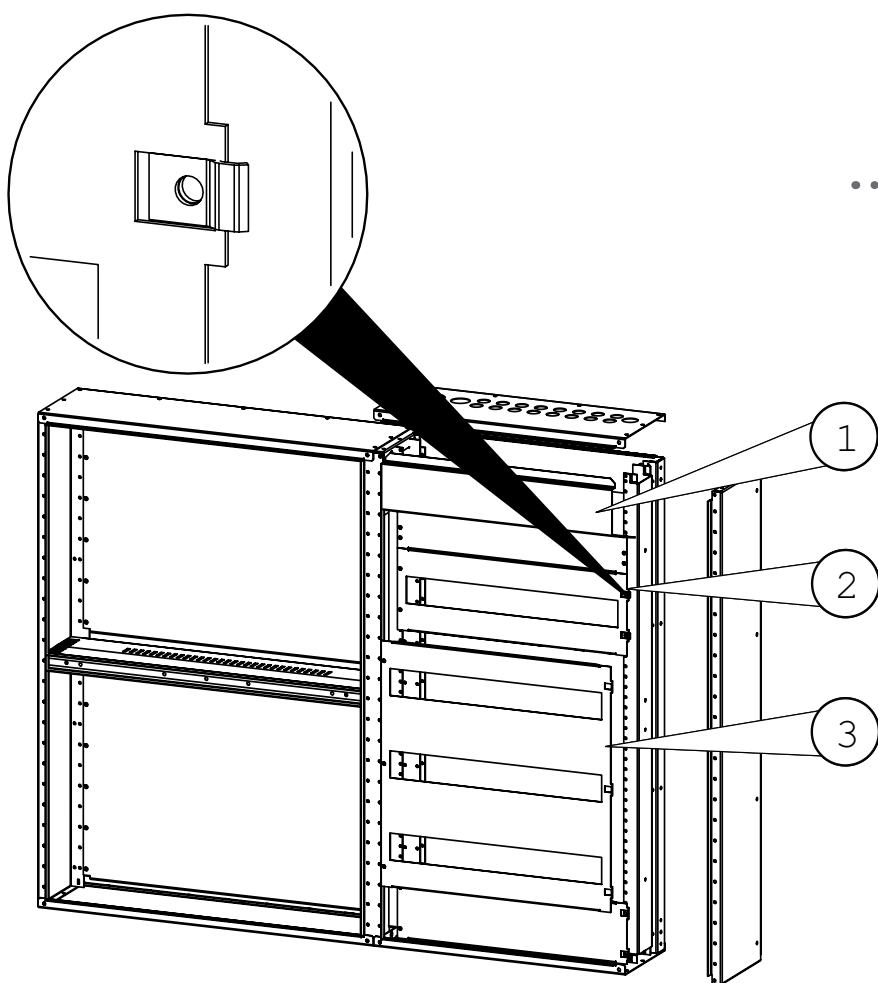

Fig 8.6.2. Intermediate covers are fastened to intermediate cover mountings using intermediate cover hinges and assembly screws.
Intermediate covers (3) are grouped in the desired order to the intermediate cover field and fastened to intermediate cover mountings using intermediate cover hinges (2). At the end(s) of intermediate cover fields it is advisable to use end intermediate covers (1) for covering terminal strips, for instance. Installation of intermediate covers is shown in Fig. 8.6.2